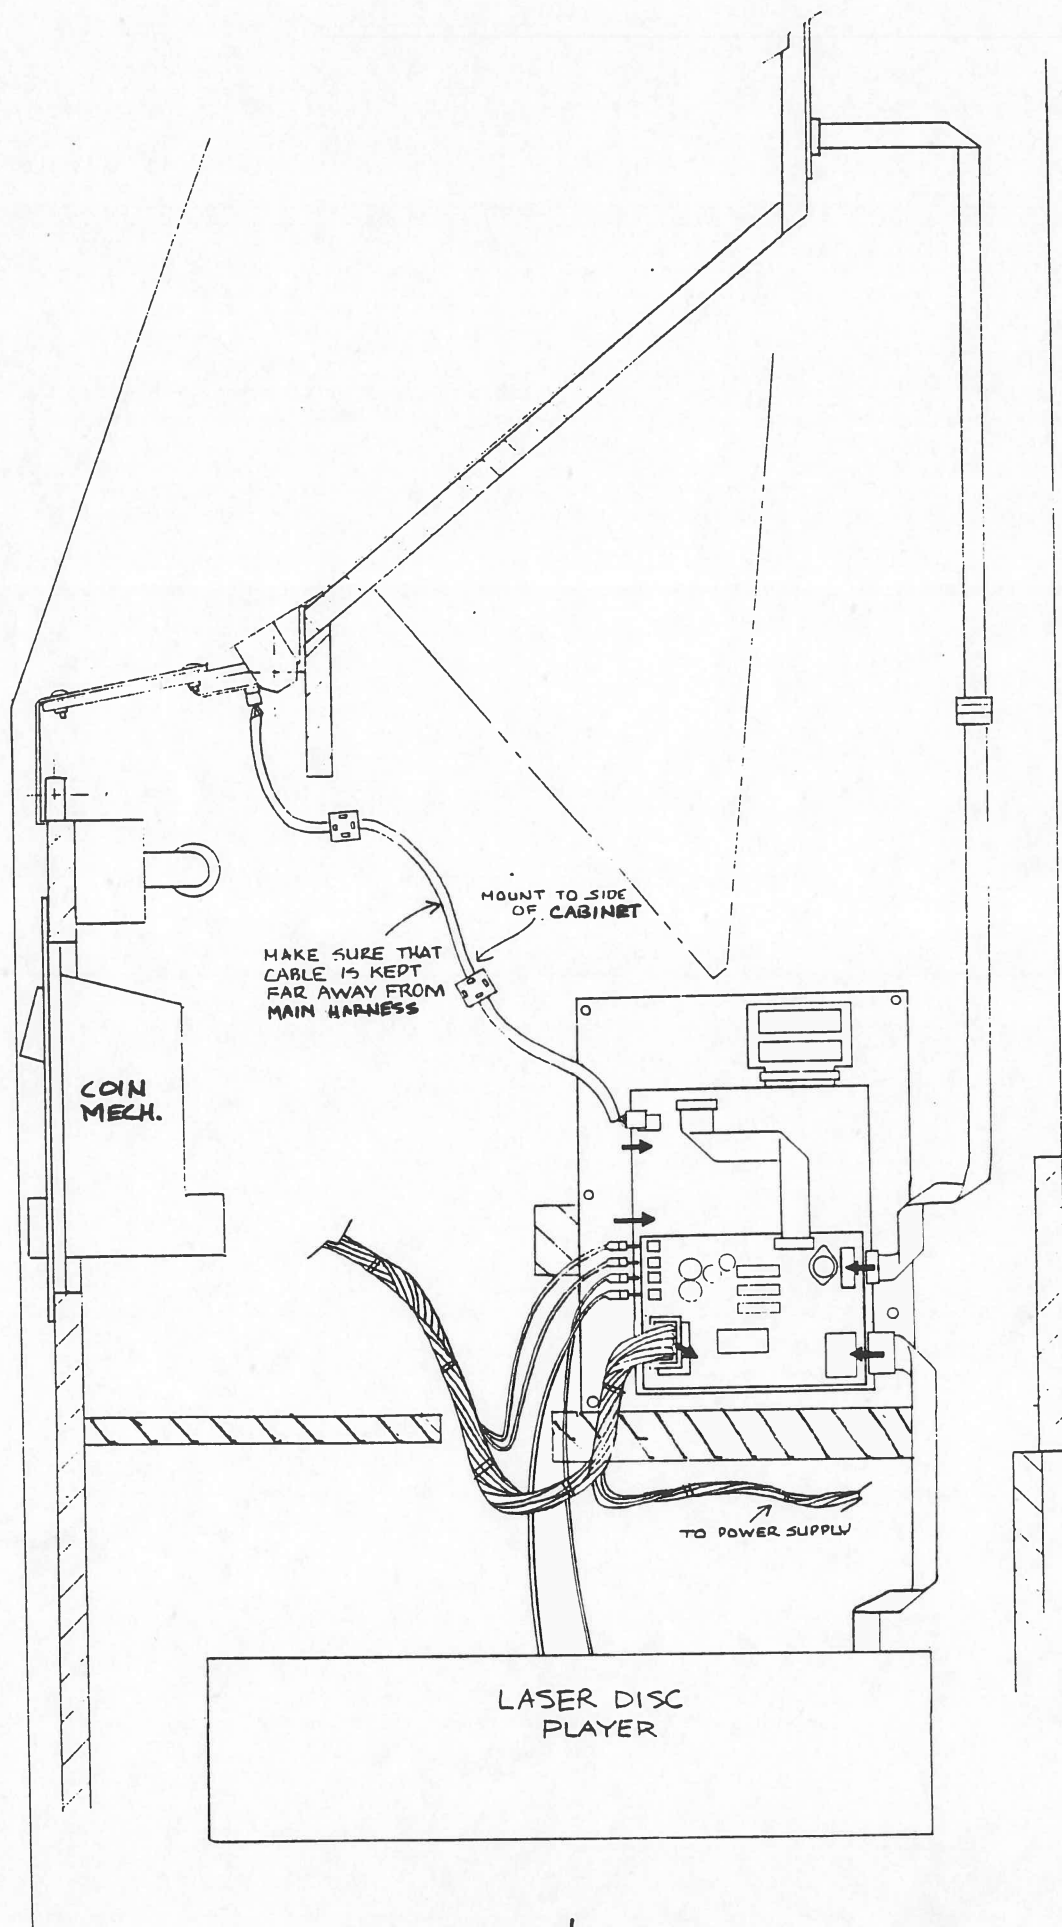

FIGURE 4
6. Install the new circuit board module in the same wooden guides as before (See Figure 4). Note that two edges of the metal mounting plate are flat. These edges slide into the wooden guides. If necessary, relocate the lowest display panel cable mount so it does not interfere with the new module. Remove the screw and position it a few inches above the top edge of the metal panel.